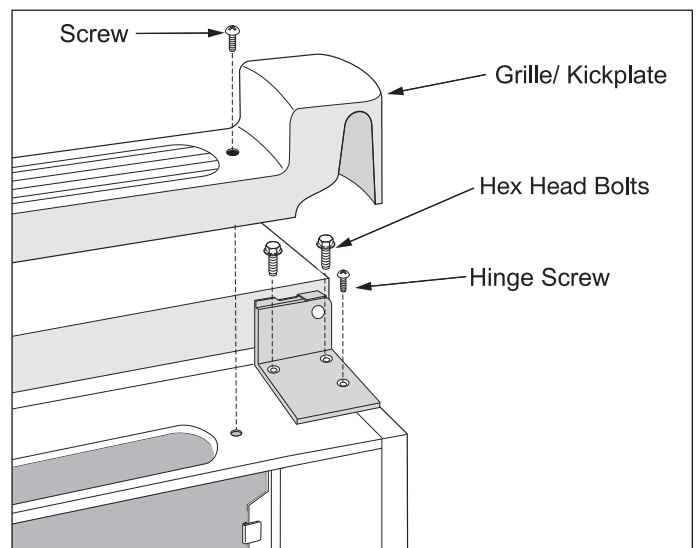

Figure 2-29. Bottom Hinge Removal
5. Using a 3/8" socket or wrench, extract the two bolts securing the lower hinge to the unit frame. Use a phillips head screwdriver to extract the remaining screw from the lower hinge assembly. (See Figure 2-29).